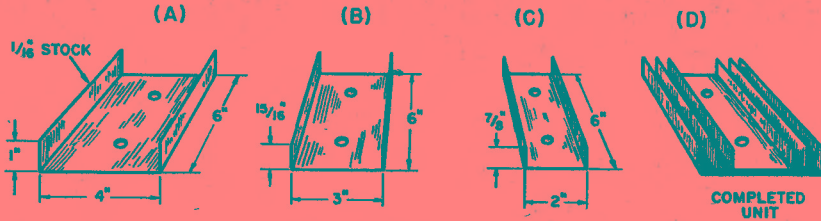

Fig. 18-5 — Details for forming channel type heat sinks.
Fig. 18-5 shows the order of progression for forming a large heat sink from aluminum or brass
Another technique for making heat sinks for TO-5 type transistors (1) and larger models (1) is shown in Fig. 18-6. This style of heat sink will dissipate considerably more heat than will the type shown in Fig. 18-5. The main body of the sink is fashioned from a piece of 1/8-inch thick aluminum angle bracket — available from most hardware stores. A hole is bored in the angle stock to allow the transistor case to fit snugly into it. The
A thin coating of silicone grease, available from most electronics supply houses, can be applied between the case of the transistor and the part of the heat sink with which it comes in contact. The silicone grease will aid the transfer of heat from the transistor to the sink. This practice can be applied to all models shown here. In the example given in Fig. 18-5, the grease should be applied between the